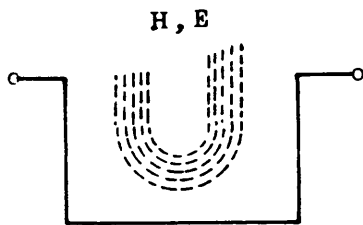

Figure 12
- o Keep the output cables for the load apart from the AC power cable and other sources of strong electromagnetic fields as shown in Figure 12.